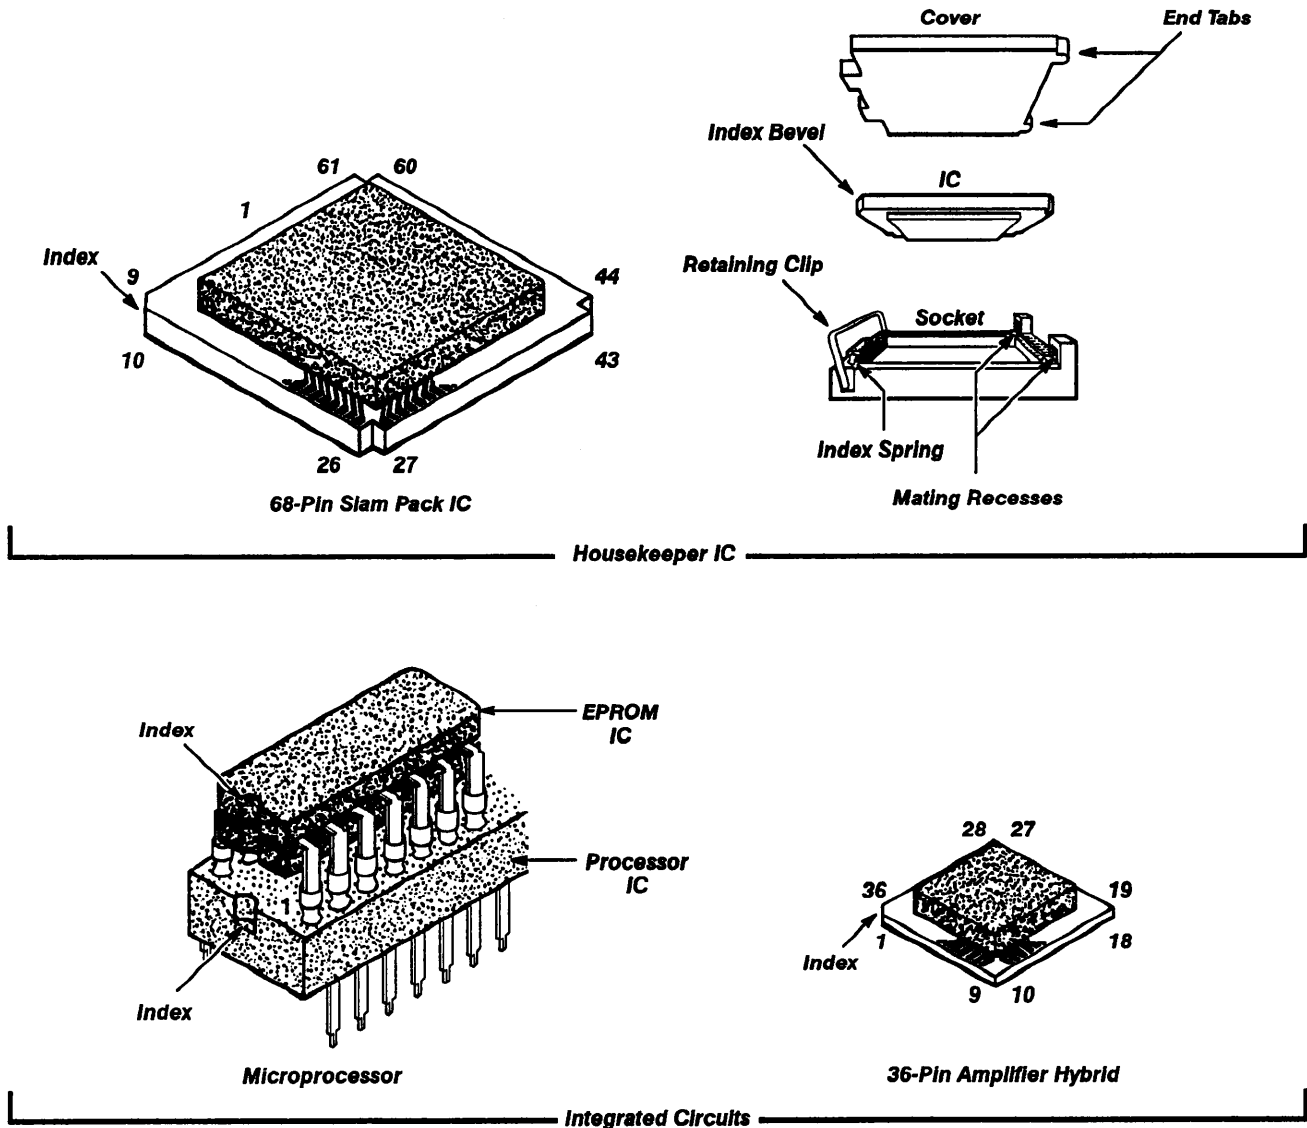

Figure 3-2 — Semiconductor Indexing Diagram
Housekeeper Integrated Circuit ("Slam-Pack" ICs) – The Housekeeper IC (A1U600) is indexed to its socket by a beveled corner, as shown in Figure 3-2. The other corners are notched to fit the edges of the socket. The beveled corner aligns with a spring (small metal tab) at one corner of the socket.
- Step 2: Do not use the IC label as an index. Look for the index on the IC body. Align the index slot with that of the A1U700 Processor IC underneath it. (Figure 3-2 gives an illustration of this indexing.)